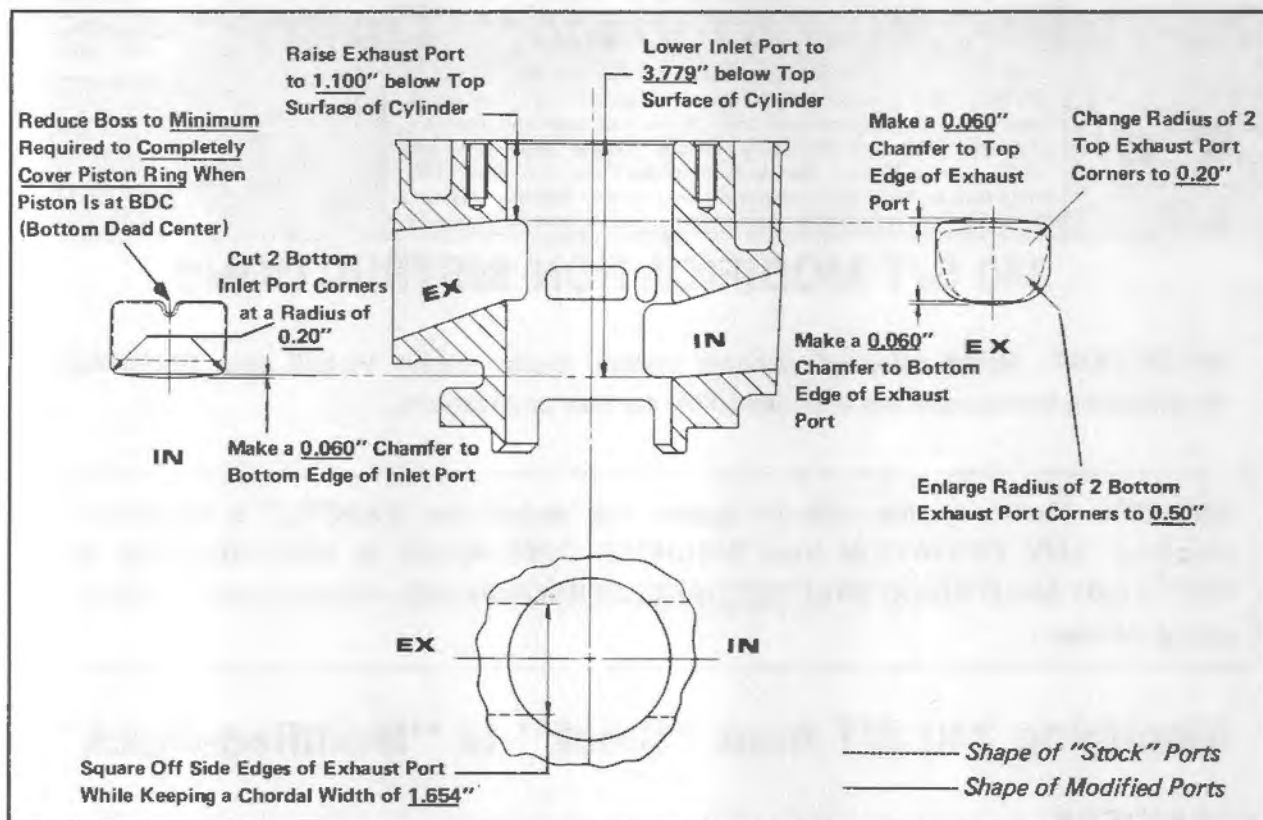

Figure 1. 340 S/T "Modified-Stock" Cylinder Dimensions
1. Raise top edge of exhaust port to a point 1.100" (27.94mm) below top surface of cylinder. (Figure 1) **DO NOT** change bottom edge of exhaust port.
2. Square off side edges of exhaust port while maintaining a chordal width of 1.654" (42.00mm). (Figure 1)
*NOTE: Chordal width (Figure 1) is straight line distance between side edges of port (not following curvature of cylinder wall).*
3. Change radius of 2 top exhaust port corners to 0.20" (5.08mm). (Figure 1)
4. Enlarge radius of 2 bottom exhaust port corners to 0.50" (12.70mm). (Figure 1)
5. After grinding exhaust port, make a 0.060" (1.52mm) chamfer to top and bottom edges of exhaust port. (Figure 1) **DO NOT** chamfer side edges of exhaust port.
1. Lower bottom edge of inlet port to a point 3.779" (95.99mm) below top surface of cylinder. (Figure 1) DO NOT change top edge or chordal width of inlet port.
2. Cut 2 bottom inlet port corners at a radius of 0.20" (5.08mm). (Figure 1)
3. Reduce boss at top edge of inlet port to a minimum. (Figure 1) Boss must be large enough to completely cover piston ring when piston is at BDC (bottom dead center).
4. After grinding inlet port, make a 0.060" (1.52mm) chamfer to bottom edge of inlet port. (Figure 1) DO NOT chamfer side edges or top edge of inlet port.